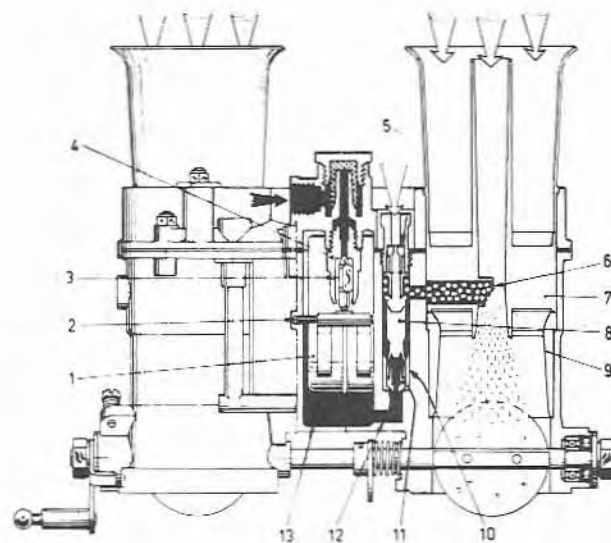

Fig. 8.5 Normal phase (46 IDA and 48 IDA) (Sec 5)
Refer to Fig. 8.5 and note that under full throttle and cruise conditions, fuel is drawn from the float chamber (13), through the channel (12) and main jets (11) and then through the orifices in the emulsion tubes (8).